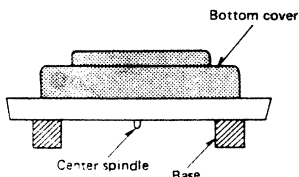

Fig. 9
2. Place a proper base under the panel on either side so that external forces will not be applied to the center spindle. (Fig. 9)